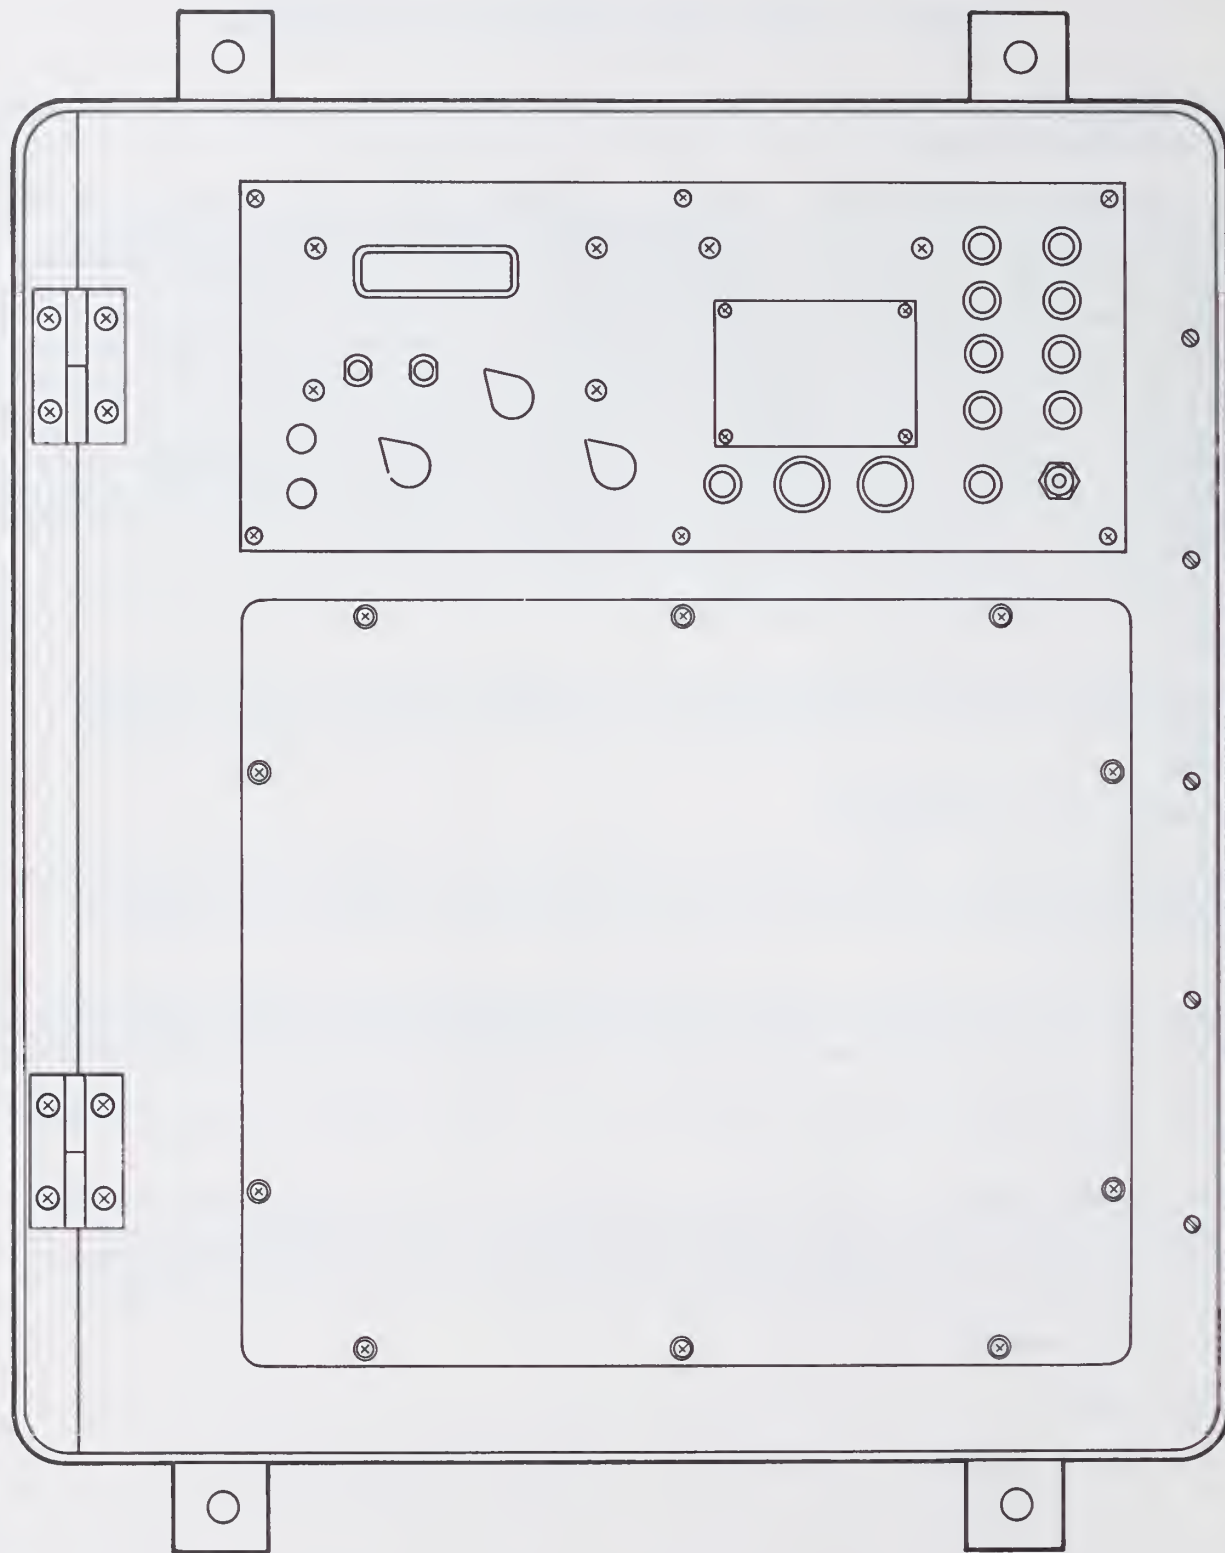

Figure 9-1. Typical Wall-Mount Installation
**9.5.1 Wall Mounting.** — Figure 9-1 shows a typical wall-mount installation. Use the appropriate supplied hardware depending on whether the IDE is to be mounted on a mason, wood, plaster, or wallboard surface.